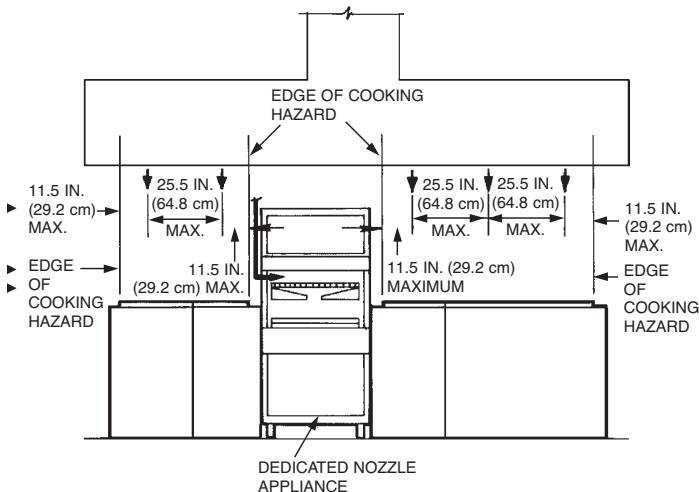

FIGURE 98
- When an appliance requires dedicated protection with a protected area intended for overlapping appliance nozzle protection, the group protection option will be required for appliances on either side of the appliances using dedicated protection. Group protection using overlapping appliance nozzles must begin with the protected appliance(s) adjacent to the dedicated appliance protected. An overlapping appliance nozzle(s) must be positioned within 11.5 in. (29.2 cm) of the edge(s) of the appliance hazard surface area(s) adjacent to the dedicated nozzle protection. See Figure 98.